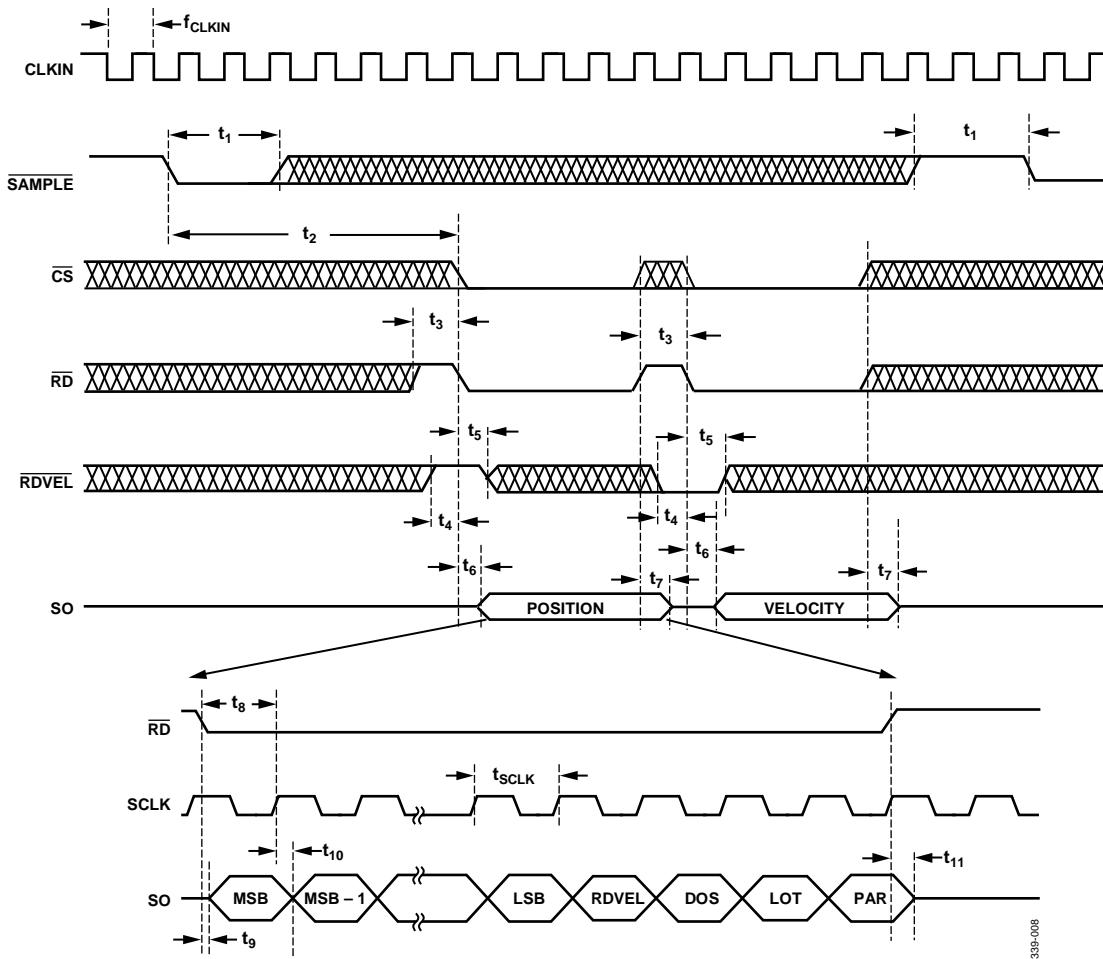

Figure 8. Serial Port Read Timing
The angular position and velocity are available on the AD2S1205 in two 12-bit registers. These registers can be accessed via a 3-wire serial interface (SO, RD, and SCLK) that operates at clock rates of up to 25 MHz and is compatible with SPI and DSP interface standards. The serial interface is selected by holding the SOE pin low. Data from the position and velocity integrators are first transferred to the position and velocity registers using the SAMPLE pin. The RDVEL pin selects whether data is transferred from the position or velocity register to the output register, and the CS pin must be held low to transfer data from the selected register to the output register. Finally, the RD input is used to read the data that is clocked out of the output register and is available on the serial output pin (SO). When the serial interface is selected, DB11 is used as the serial output pin (SO), DB10 is used as the serial clock input (SCLK), and Pin DB0 to Pin DB9 are placed into the high impedance state. The timing requirements for the read cycle are described in Figure 8.
The output shift register is 16 bits wide. Data is clocked out of the device as a 16-bit word by the serial clock input (SCLK). The timing diagram for this operation is shown in Figure 8. The 16-bit word consists of 12 bits of angular data (position or velocity, depending on RDVEL input), one RDVEL status bit, and three status bits (a parity bit, a degradation of signal bit, and a loss of tracking bit). Data is clocked out MSB first from the SO pin, beginning with DB15. DB15 through DB4 correspond to the angular information. The angular position data format is unsigned binary, with all 0s corresponding to 0° and all 1s corresponding to 360° – 1 LSB. The angular velocity data format is two's complement, with the MSB representing the rotation direction. DB3 is the RDVEL status bit, with a 1 indicating position and a 0 indicating velocity. DB2 is DOS, the degradation of signal flag (refer to the Fault Detection Circuit section). Bit 1 is LOT, the loss of tracking flag (refer to the Fault Detection Circuit section). Bit 0 is PAR, the parity bit. The position and velocity data are in odd parity format, and the data readback always contains an odd number of logic highs (1s).